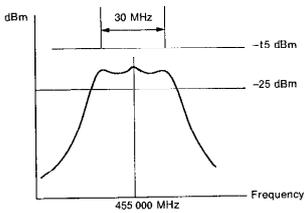

Figure 4-9
- (e) With the adjustment rod, adjust L101, L102, L103, L104, and L105 in order such that the display level of the spectrum analyzer is between -15 dBm and -25 dBm (as shown in Figure 4-9)